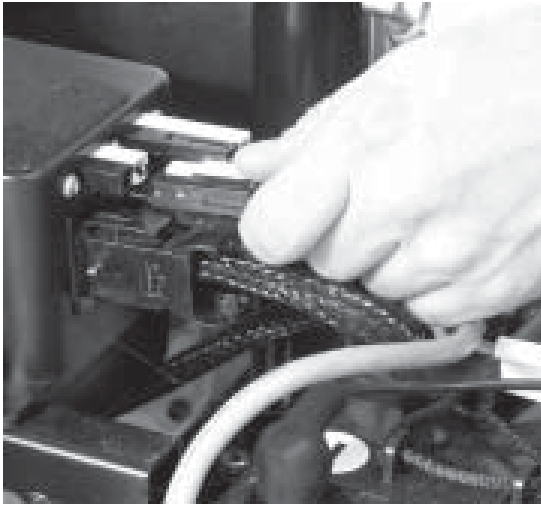

FIGURE 20. UNPLUGGING THE BATTERY HARNESSSES
6. Unplug both battery harnesses; then lift both batteries from the battery wells. See figures 20 and 21.